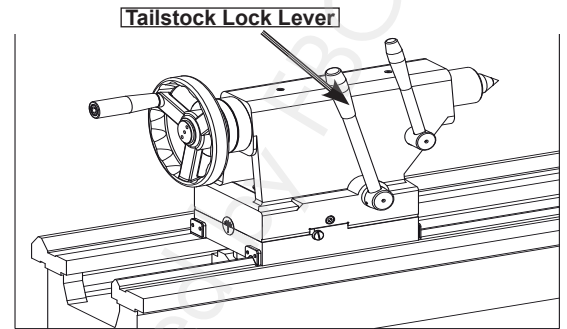

Fig. 9 Tailstock lock lever
3. To balance the lifting load, loosen the tailstock lock lever (figure 9), move the tailstock to the end of the bedway, then lock it in place.